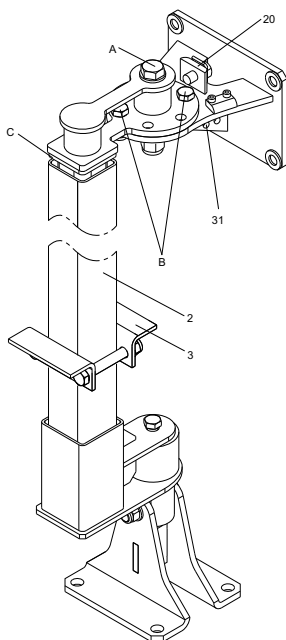

Fig. 7 Fixation
7. Position and align the column profile in the bottom fixation bracket. Shorten the column profile (2) to the correct length to match the position of the insulator (C) at the top fixation bracket. A gap of 5 to 10 mm between collar of insulator and column profile is optimal. See fig. 7.